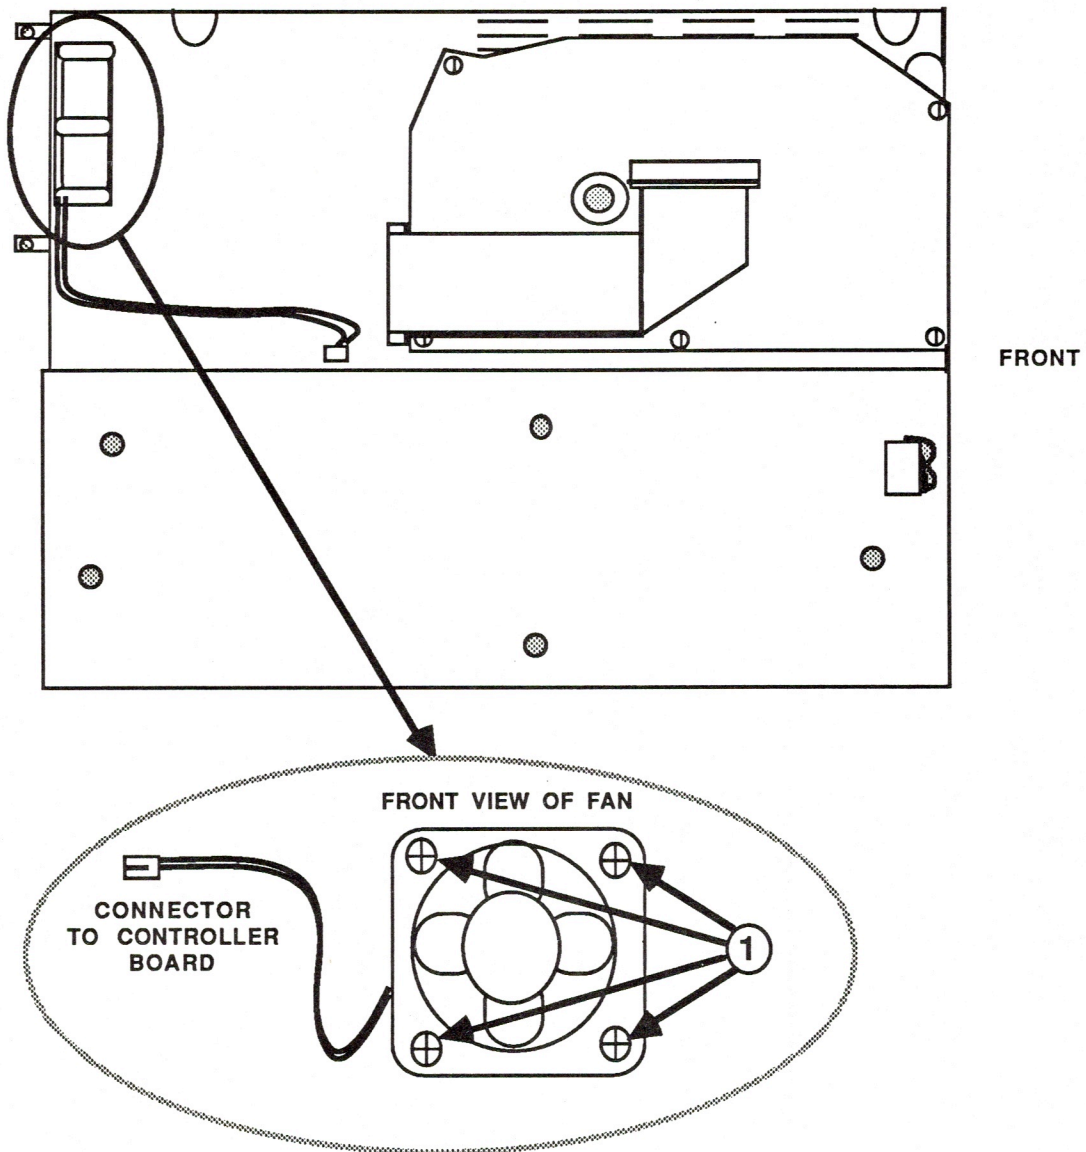

FIGURE 6
4. Remove the four screws holding the fan in place (see Figure 6, #1).
2. Replace the four screws (see Figure 6, #1).